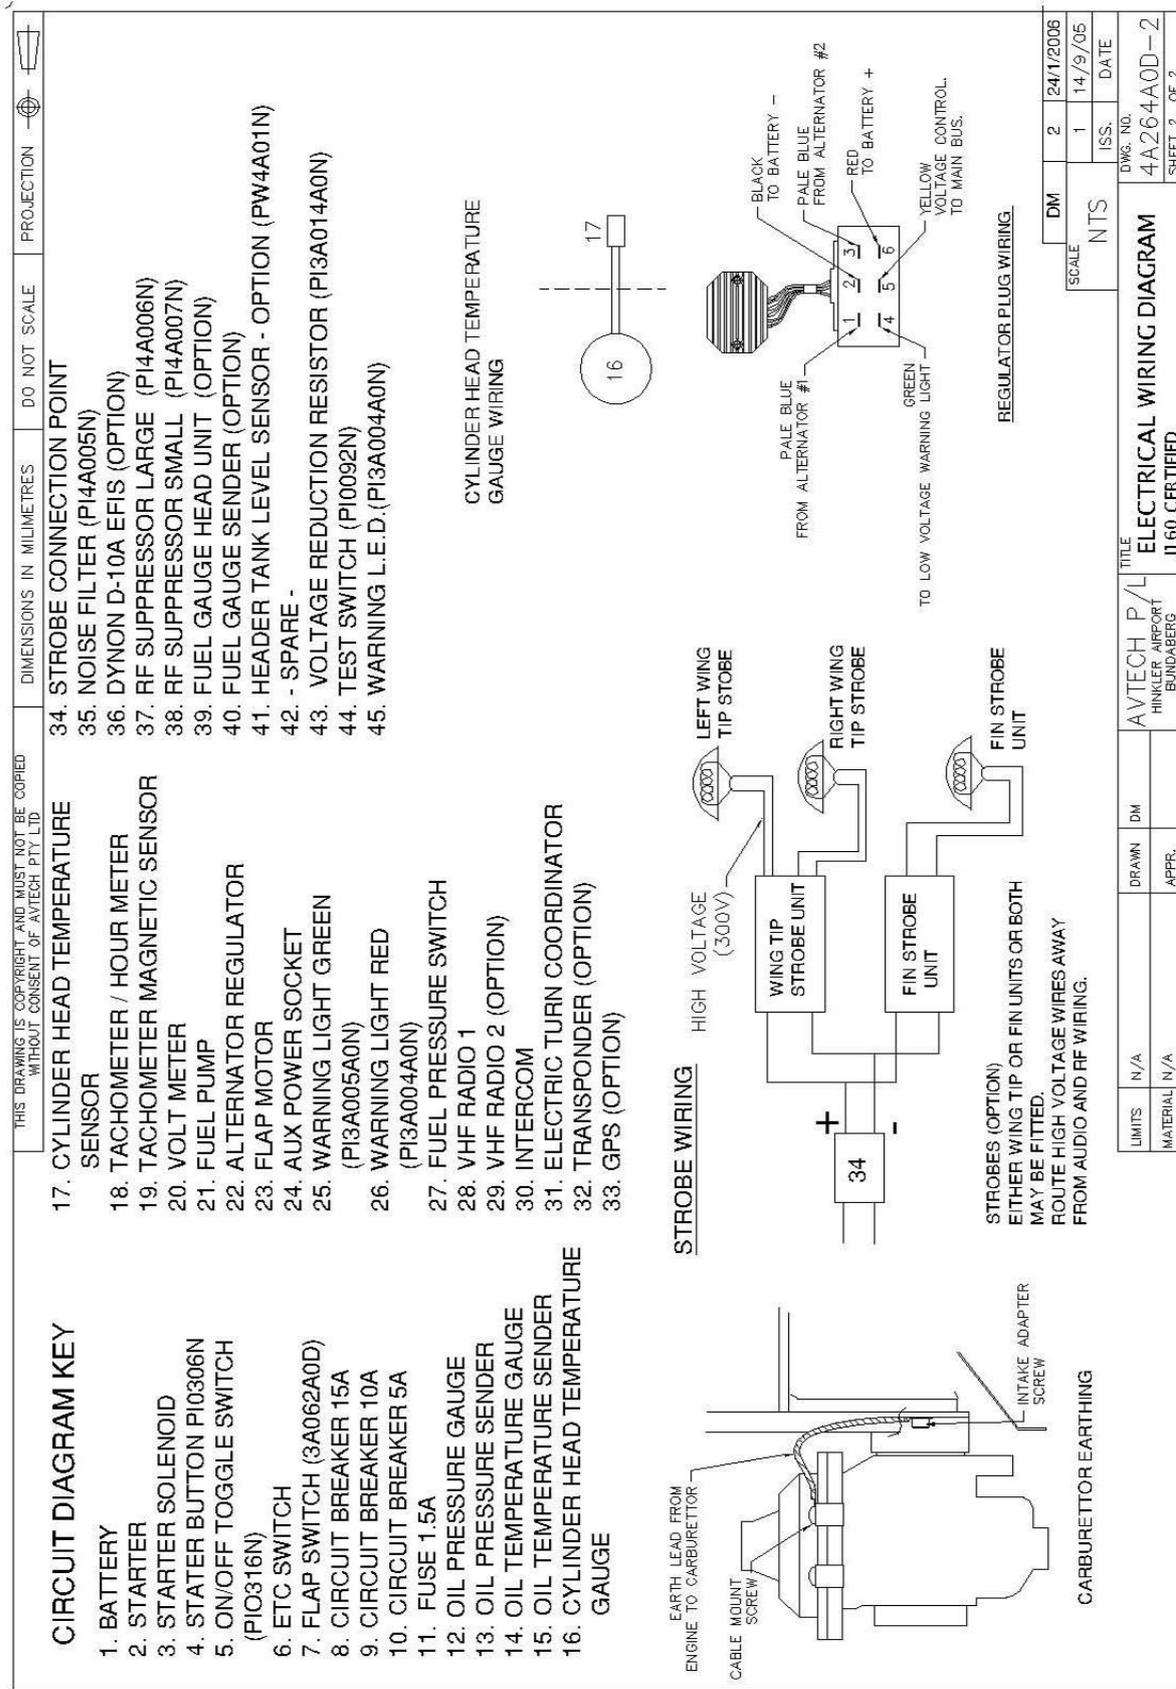

Figure 30. Wiring Diagram Key
- Cables passing through the firewall (such as throttle cables, choke, carburettor heat and cabin heat cables) can transmit RF noise back into the cabin. This can be minimised by earthing the cables at ONE end. On the Jabiru Engine an earth wire (Shown in Figure 30) is provided connecting the carburettor to the rest of the engine, so the throttle and choke cables are connected to earth through this wire.